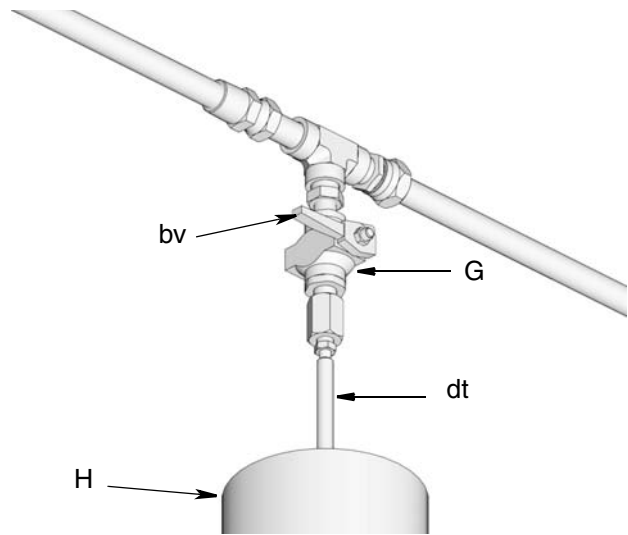

FIG. 19: In line installation shown
- To relieve pressure between the refill pump and Auto-Fill Shut Off, open ball valve (bv) (FIG. 19). Pressure will be released and excess fluid will drain out of the drain tube (dt) and into the lubrication collection container (H).